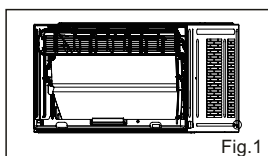

Fig.1
1. Remove 4 screws fixed on left and right sides of case and chassis(Fig.1)